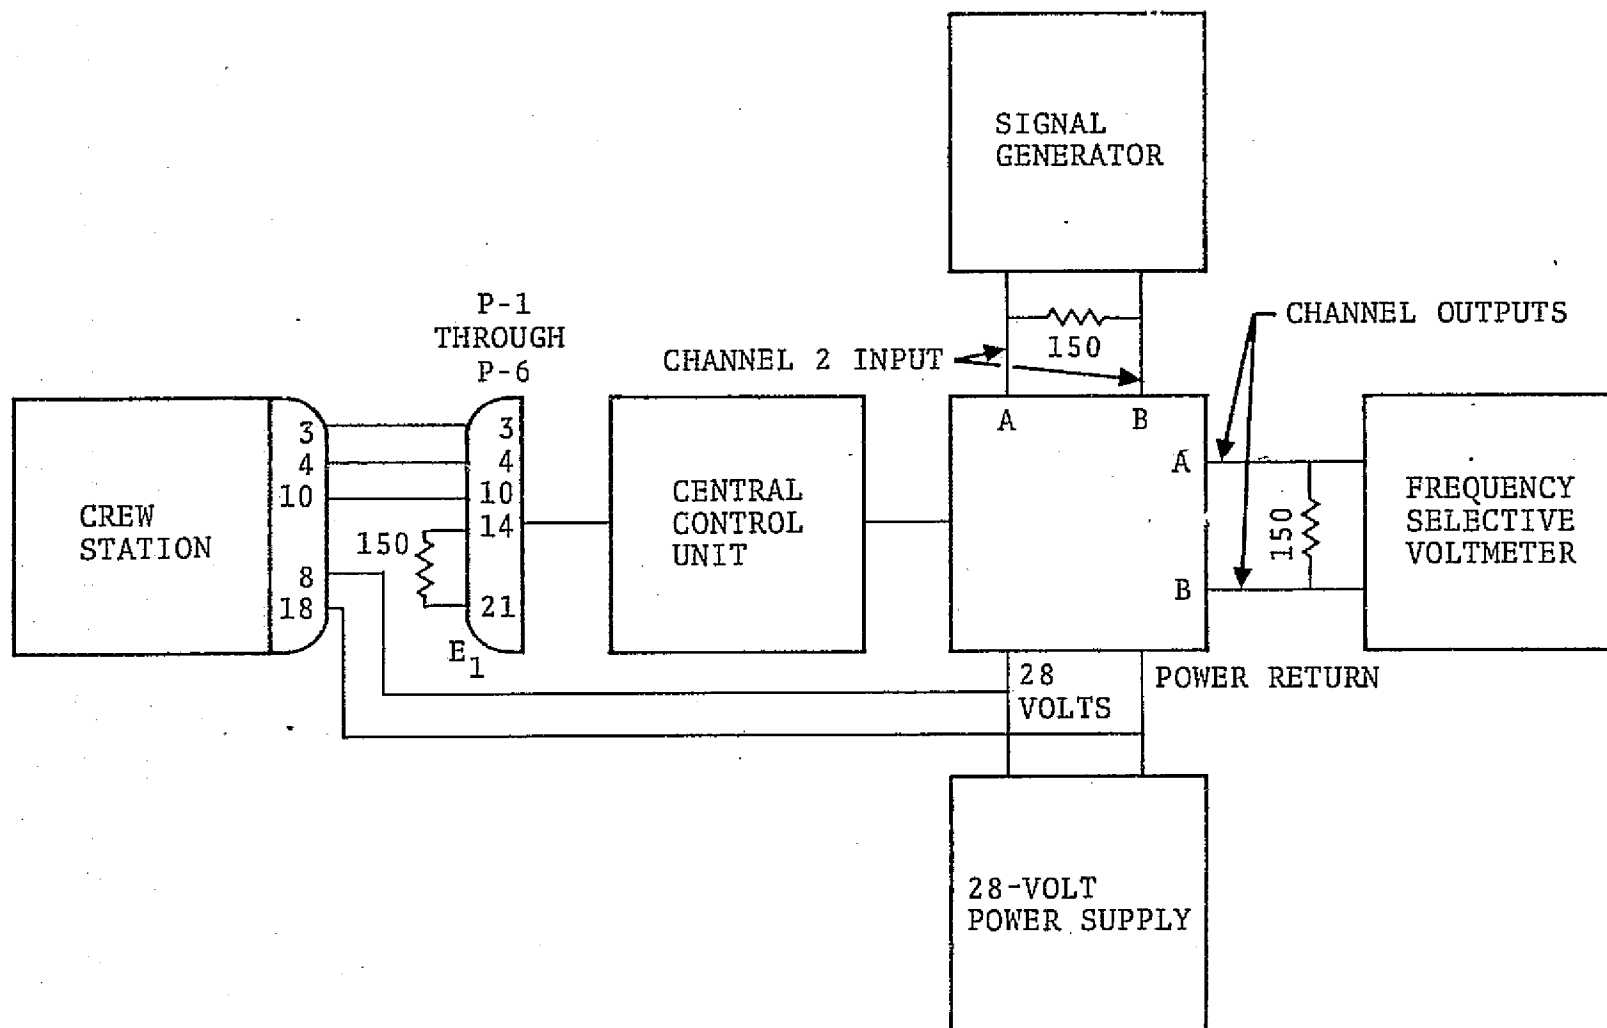

Figure 5-8. — Receive-to-transmit crosstalk test setup 1.
1. Connect the equipment as shown in figure 5-8 starting with the channel 1 output and plug P-1.